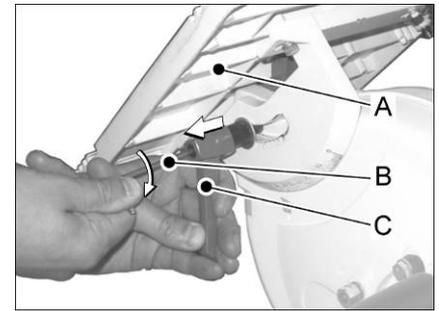

Fig 3
Mount the machine table (A, Fig 3) with the indexable knob (C) on the back of the machine cabinet.